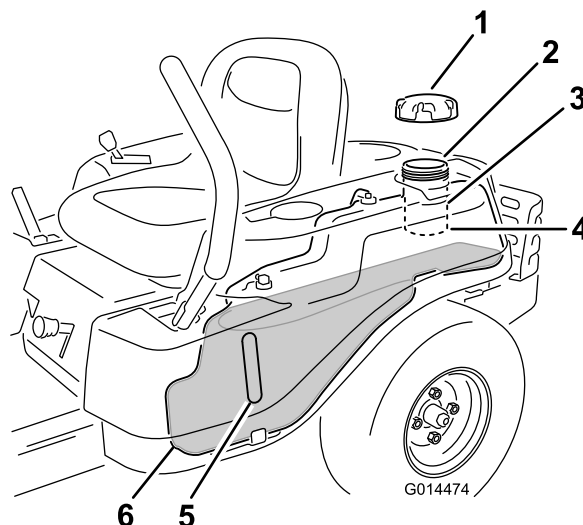

Figure 10
**Note:** You can use the fuel window to verify the presence of gasoline before filling the tank (Figure 10).
2. **Slowly** add regular, unleaded gasoline until the fuel reaches the base of the filler neck (Figure 10).